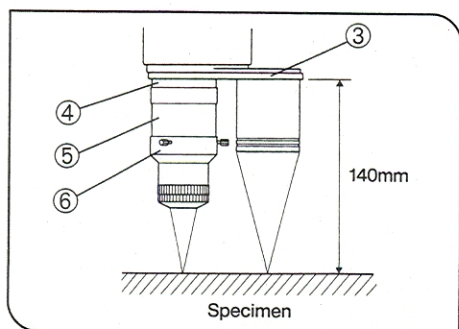

Fig. 19
⊙ This is convenient when using a parfocal objective (PF) with the SZX-2RE revolving nosepiece ③ and the SZX-AL20X. (Fig. 19)
- Attach the provided parfocal correction ring ④ to the DFPLAPO1XPF ⑤ by screwing in, then attach the SZX-AL20X ⑥. (Fig. 19)